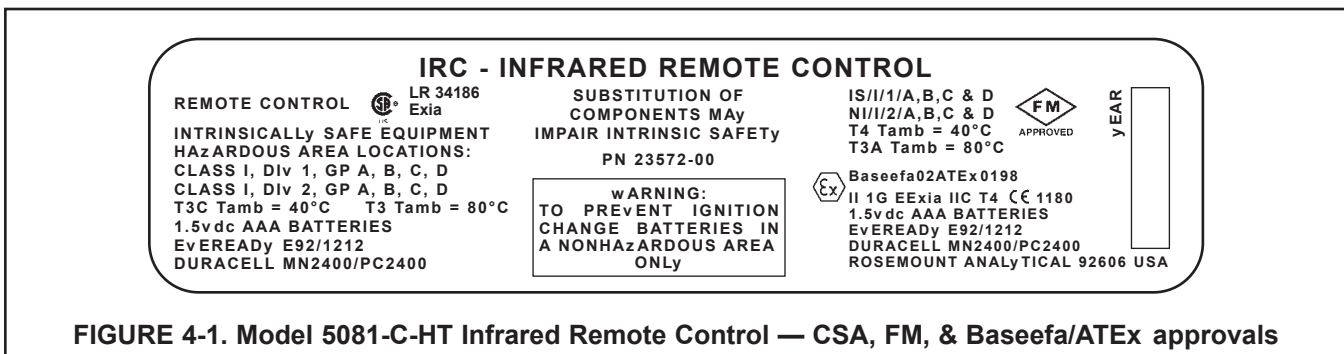

FIGURE 4-1. Model 5081-C-HT Infrared Remote Control — CSA, FM, & Baseefa/ATEX approvals
- For CSA, FM, & Baseefa/ATEX approvals for the infrared Remote Control, see Figure 4-1 (below).